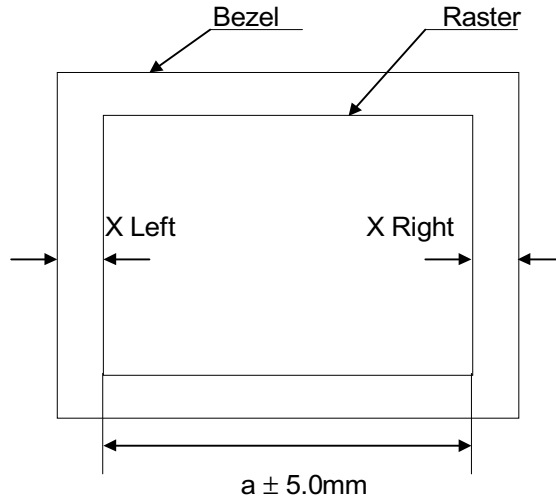

Fig. 2-1 Horizontal Raster Centering
- 1) Open Menu (S),TAG2) "SHORT / TALL" "DOWN / UP", and adjust "+", "-" SW so that the vertical size and position becomes the following. (Refer to Fig. 2-1.)